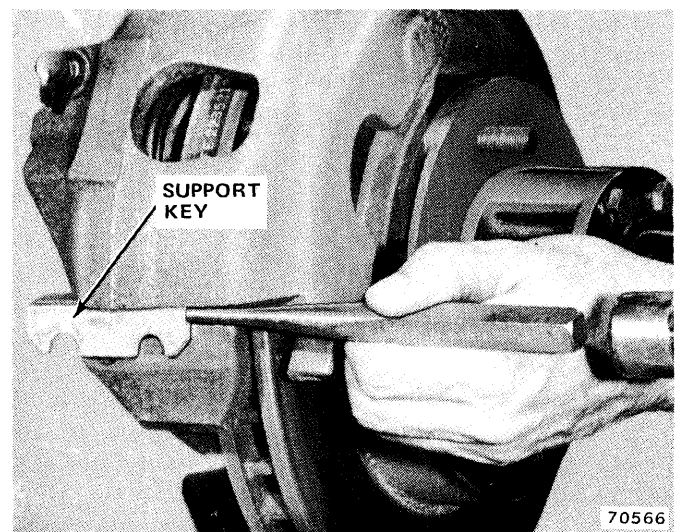

Fig. 9-46 Removing Support Key and Support Spring
(8) Remove caliper support key and support spring using punch and hammer (fig. 9-46).